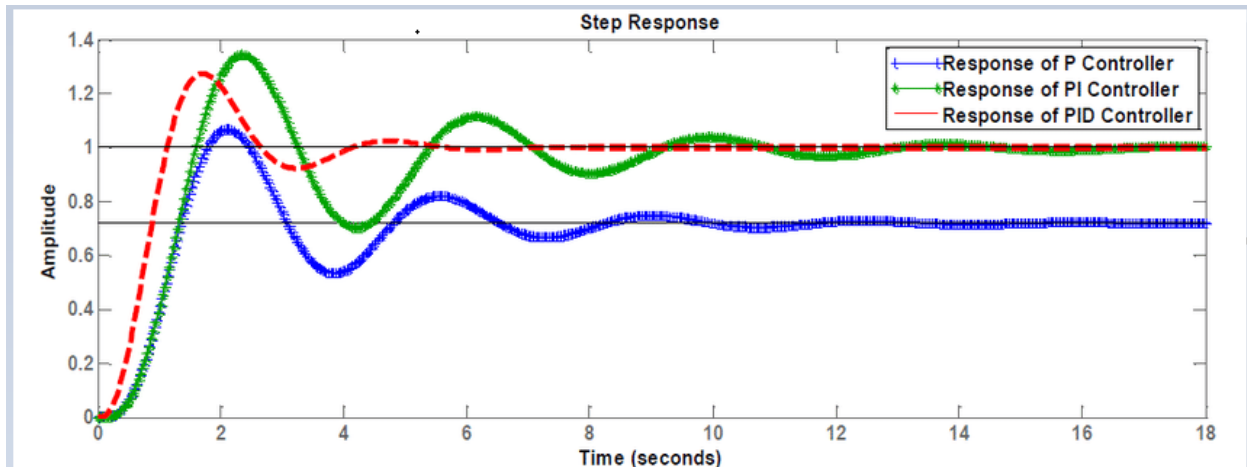

Figure 3: The Response of each term of the PID Controller on the system
**P or Proportional:** The Proportional is calculated by multiplying the P-Gain by the error. The purpose of the proportional, is to have a large immediate reaction on the output to bring the process value close to the set point as shown in figure 3. As the error becomes less, the influence of the proportional value on the output becomes less. The Proportional math looks like this:
**I or Integral:** The Integral is calculated by multiplying the I-Gain, by the error, then multiplying this by the cycle time of the controller (how often the controller performs the PID calculation) and continuously accumulating this value as the “total integral”. The integral looks into the past of the system. Adding an integral command will correct the static error induced by a proportional command set alone as shown in figure 3.
**D or Derivative:** The derivative is calculated by multiplying the D-Gain by the ramp rate of the process value. The purpose of the derivative is to “predict” where the process value is going, and bias the output in the opposite direction of the proportional and integral, to hopefully prevent the controller from overshooting the set point if the ramp rate is too fast as shown in figure 3. Explained a bit simpler, if the process value is approaching the set point too fast, the derivative will limit the output to prevent the process value from.